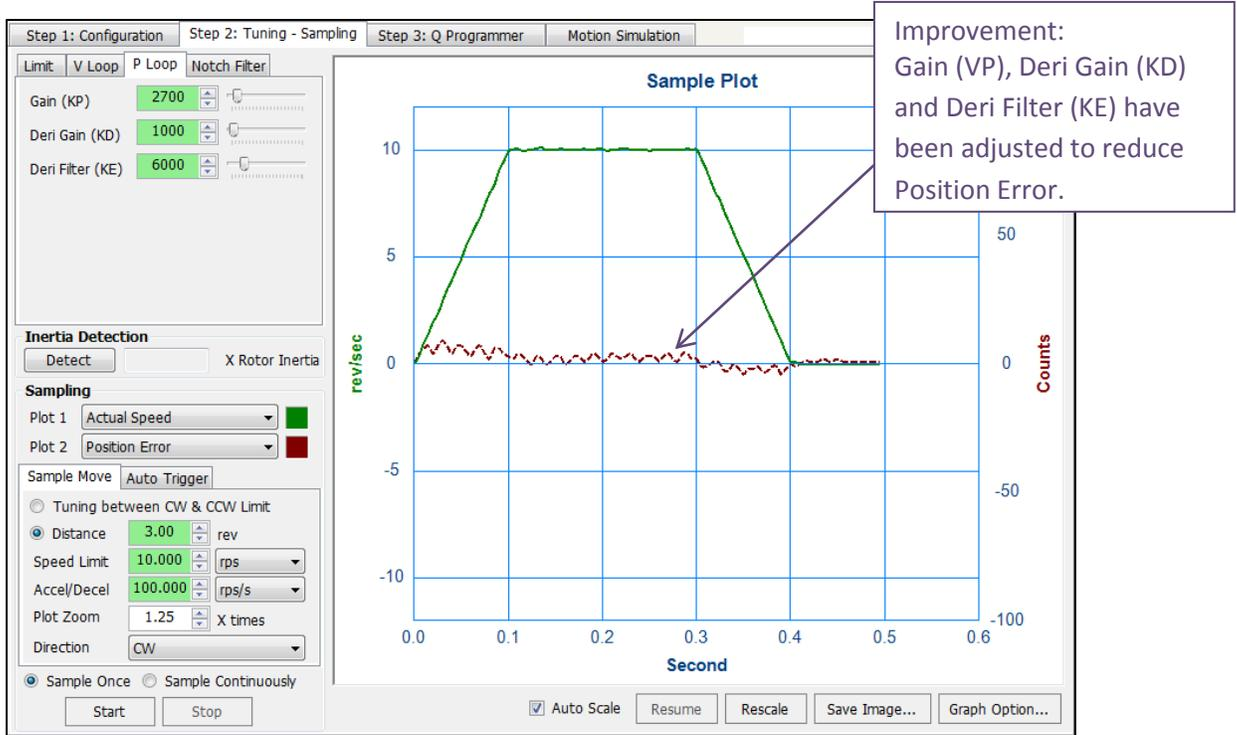

Figure 5a: Position error has been minimized by adjusting the P Loop tuning
Operation 5 – Add in Derivative Gain (KD) and adjust KP and KE (see Fig. 5a)